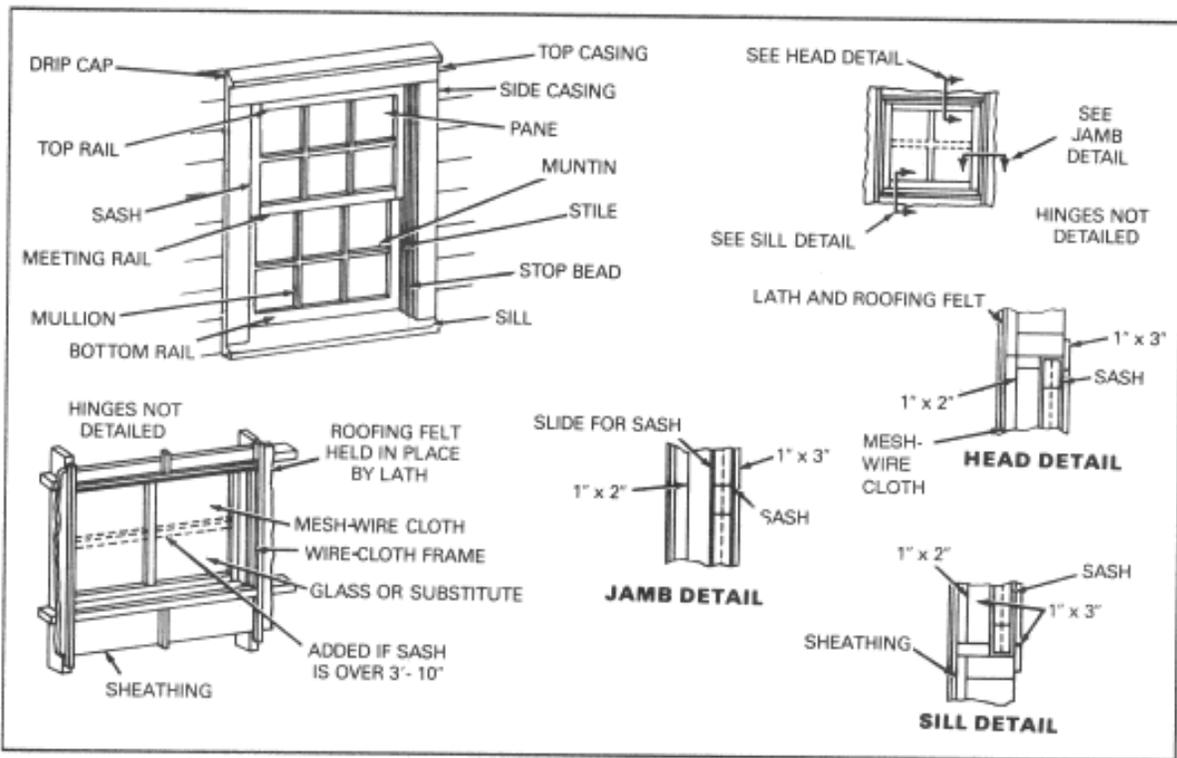

Figure 8-15. Window frame and sash details
Step 2. Nail the frames together. When the two frames are nailed together, they should be turned so that the joints are not over each other. This staggers the joints and strengthens the sash. Do not make the window sash larger than the available glass substitute. If the sash is too large for the glass substitute to cover, a muntin may be placed in the sash to hold the glass substitute; this should be fastened with corrugated metal fasteners. Where long sashes are made, a muntin should be placed in the center for added strength. Figure 8-15, page 8-12, shows the window frame and sash details.